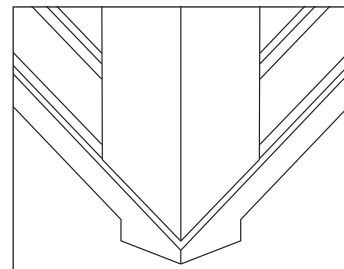

Fig. 4 – Lining the valley
- 4 A single strip of roofing underlay, at least the full width (500mm) of the valley boards, should be laid up the centre and directly on top of the boards allowing for an overlap beyond the fascia line where appropriate and which may be trimmed later (Fig. 4).